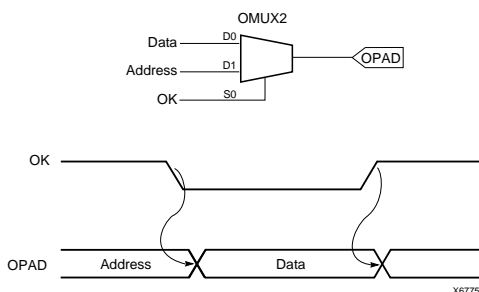

Figure 9: Multiplexing XC4000EX Outputs
Consider the multiplexed address/data example shown in Figure 9. When the clock (select line) is High, the address is placed on the output pin; when Low, the data appears. To create this output, simply run both address and data bits into the output multiplexer (OMUX2). Use the output clock (OK) to select the address bit when High, the data bit when low.